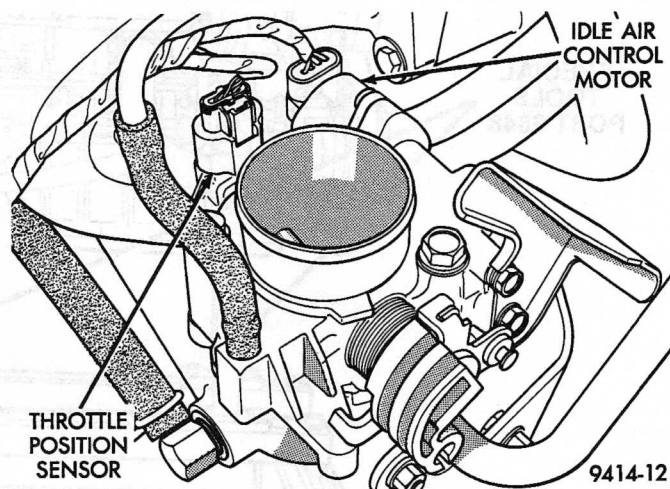
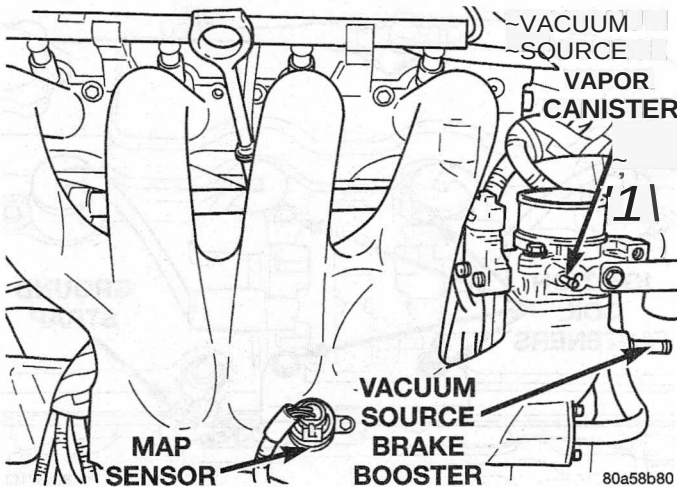
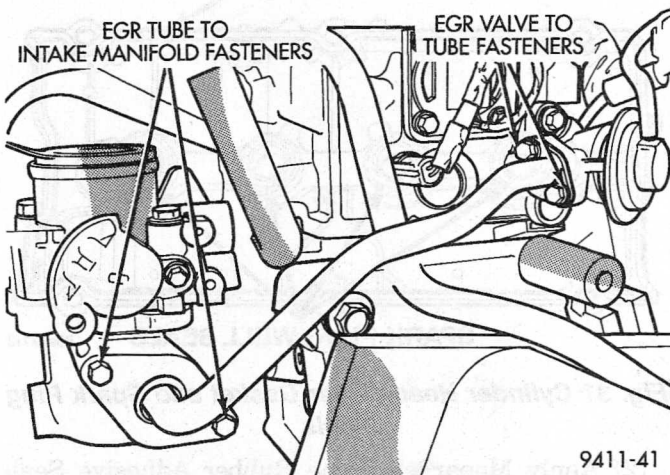

Fig. 23 Idle Air Control (IAC) Motor and Throttle Position Sensor (TPS) Wiring Connectors.
Fig. 25 Manifold Absolute Pressure (MAP), Vapor Canister Hose, and Brake Booster Hose
Fig. 26 Tube Assembly—Typical
(6) Remove throttle and speed control cables from throttle lever and bracket. Refer to Group 14, Fuel System for procedures.
(7) Disconnect idle air control (IAC) motor and throttle position sensor (TPS) wiring connectors (Fig. 23).
(9) Disconnect intake air temperature electrical connector. Disconnect leak detection pump and PCV hoses (Fig. 25).
(10) Remove trans axle to throttle body support bracket fasteners at the throttle body and loosen the fastener at the trans axle end.
(11) Remove EGR tube bolts at the valve and at the intake manifold (Fig. 26). Remove tube from engine and discard gaskets.
(6) Connect Manifold Absolute Pressure (MAP) electrical connector, vapor canister hose, and brake booster hose (Fig. 25).
(7) Connect knock sensor electrical and starter relay connectors. Connect wiring harness to intake manifold tab.
(8) Connect Idle Air Control (IAC) motor and Throttle Position Sensor (TPS) wiring connectors (Fig. 23).
(9) Install throttle and speed control cables to bracket. Connect cables to the throttle lever. Refer to Group 14, Fuel System Throttle Body Installation procedure.
(10) Position new EGR tube gaskets and loosely assemble the EGR tube onto valve and intake manifold (Fig. 26). First tighten tube fasteners at the EGR valve to 11 N·m (95 in. lbs.). Then, tighten the intake manifold side fasteners to 11 N·m (95 in. lbs.).